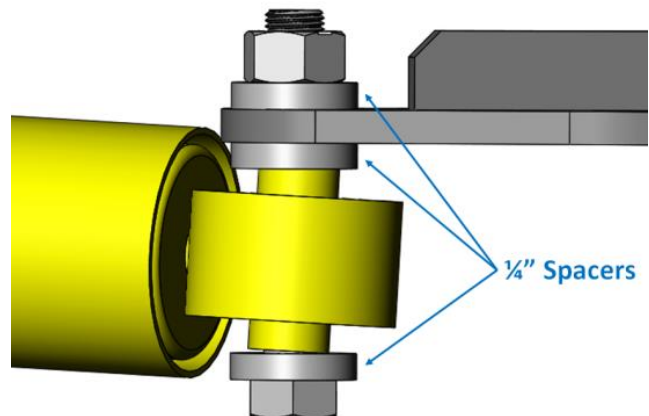

Figure 4
6. Hang the small end of the SAFE T PLUS® from USI-1030 using the 9/16"-18 x 3-1/2" bolt, three 1/4" spacers, and the 9/16" lock nut (Figure 4)